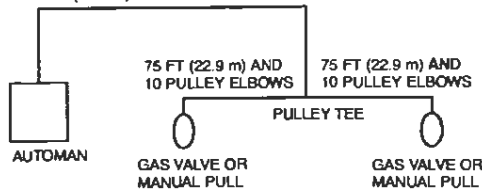

FIGURE 123
- Example:** If 10 pulley elbows are placed between the AUTOMAN and the pulley tee, the maximum available pulley elbows left for use on each side of the tee is 10 per side. See Figure 123 for three different examples. (Note: Both must be gas valves or both must be pull stations. Mixing is not allowed.)
- Example:** If 10 pulley elbows are placed between the AUTOMAN and the pulley tee, the maximum available pulley elbows left for use on each side of the tee is 10 per side. See Figure 123 for three different examples.